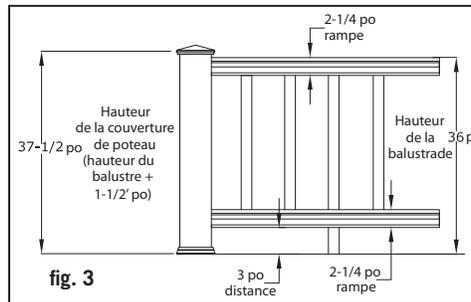

fig. 3
Step 5: Trim 4x4 post sleeves to length. Post sleeves should be a minimum of 1-1/2" longer than the railing height (fig. 3). Example: For a 36" high railing, trim post sleeve to a minimum of 37-1/2", can be left longer if desired. Slide a trimmed post sleeve over each 4x4 railing post. Slide a post base trim over each post sleeve.
Step 8: Assemble the lower inner rail and support block assembly. A support block is needed every 2' on-center. Check building codes for a maximum spacing between deck surface and bottom of rail (sweep). A 3" sweep is recommended but can be more or less if codes allow (fig. 3). Trim support blocks to desired height and using the two 1-1/2" long pan head screws, fasten support blocks to the underside of the inner rail an equal distance from the ends.
Step 11: Determine the length of the balusters (fig. 3). Fig. 3 illustrates how a 36" high railing might be sized. Starting with a 3" sweep + 2-1/4" for the bottom railing, 28-1/2" baluster height + 2-1/4" for the top rail = a 36" rail height.
If these are the dimensions that you are going to use, cut the balusters to 28-1/2" length using a cut-off or miter saw. Use 34-1/2" balusters for 42" railings. If you want to have your railing at a different height, use fig. 3 as a planning tool to determine the height to cut the post sleeves and the balusters, *Note: Use a fixture to ensure a consistent length (+/- 1/16")*. Trim the balusters to the required length. Install balusters on each baluster connector. Gently tap the balusters with a rubber mallet to eliminate any gaps. Check for level end to end.
Step 9: Determine the length of the balusters (fig. 3). Fig. 3 illustrates how a 36" high railing might be sized. Use fig. 3 as a planning tool to determine the height to cut the post sleeves and the balusters. **Note: Use a fixture to ensure a consistent length (+/- 1/16")**. Trim the balusters to the required angle and length. (One per hole in lower U-rail). Install balusters on each connector. Gently tap the balusters with a rubber mallet to eliminate any gaps. Check for level end to end.
Étape 5 : Taillez les couvertures de poteaux 4x4 de la bonne longueur. Les couvertures de poteaux devraient mesurer 1-1/2 po de plus que la hauteur de la balustrade (fig.3). Exemple : pour une balustrade de 36 po de hauteur, taillez une couverture de poteau mesurant au moins 37-1/2 po. Vous pouvez même les tailler plus longues si vous le désirez. Glissez une couverture de poteau par-dessus chaque poteau 4x4. Glissez un couvre-joint à la base de chaque couverture de poteau.
Étape 8 : Assemblez la main courante de dessous et le bloc de soutien. Un bloc de soutien est nécessaire à tous les 2 pi de centre à centre. Consultez les codes de la construction afin d'en savoir plus sur l'espacement maximal entre la surface de la terrasse et le bas des rampes (distance). Une distance de 3 po est conseillée, mais l'écart peut être plus grand ou plus petit selon les codes (fig.3). Taillez les blocs de soutien à hauteur désirée. Avec deux vis rondes de 1-1/2 po, fixez les blocs de soutien sous la main courante à distance égale des extrémités.
Étape 11 : Calculez la longueur des balustres (fig.3). La Fig. 3 montre comment une balustrade de 36 po devrait être dimensionnée. En commençant avec une distance de 3 po au bas + 2-1/4 po à partir du pied de la balustrade + des balustres d'une hauteur de 28-1/2 po + 2-1/1 po pour la rampe de dessous= une balustrade d'une hauteur de 36 po.
Si ce sont les dimensions que vous utiliserez, coupez des balustres d'une longueur de 28-1/2 po en utilisant une ébouteuse ou un banc de scie. Coupez des balustres de 34-1/2 po pour une balustrade de 42 po de hauteur. Si vous voulez que votre balustrade soit d'une hauteur différente, référez-vous à la fig.3 comme outil de planification afin de déterminer la hauteur dont vous couperez les couvertures de poteaux et les balustres. Note : Utilisez un porte-pièce afin de vous assurer d'une longueur constante (+/- 1/16 po). Taillez les balustres de la bonne longueur. Placez les balustres dans chaque embout de balustrade. Tapez doucement sur les balustres avec un maillet en caoutchouc afin d'éliminer tout espacement possible. Nivelez d'un bout à l'autre.
Étape 9 : Calculez la longueur des balustres (fig.3). La Fig. 3 montre comment une balustrade de 36 po devrait être dimensionnée. Référez-vous à la fig.3 comme outil de planification afin de déterminer la hauteur dont vous couperez les couvertures de poteaux et les balustres. **Note : Utilisez un porte-pièce afin de vous assurer d'une longueur constante (+/- 1/16 po).** Taillez les balustres de la bonne longueur et du bon angle. (Un par trou sur la rampe de dessous en U). Tapez doucement sur les balustres avec un maillet en caoutchouc afin d'éliminer tout espacement possible. Nivelez d'un bout à l'autre.